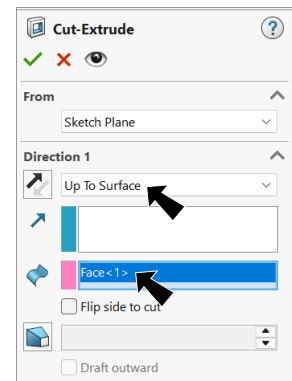

**Fig. 14**
Step 6. Click **Smart Dimension**  (S) on the Sketch toolbar.
Step 7. Add dimensions, **Fig. 14**.